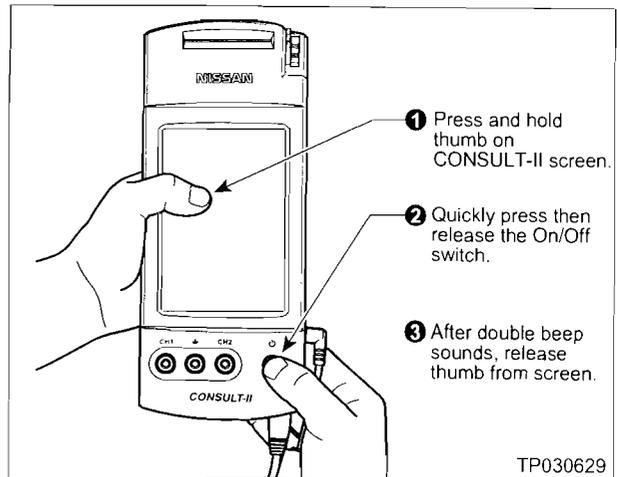

Figure 6
8. Turn "ON" CONSULT-II as shown in Figure 6.
NOTE: If you accidentally choose a menu option other than "Transfer Files via LAN"; turn CONSULT-II "OFF", and then back "ON" as shown in Figure 6 above.